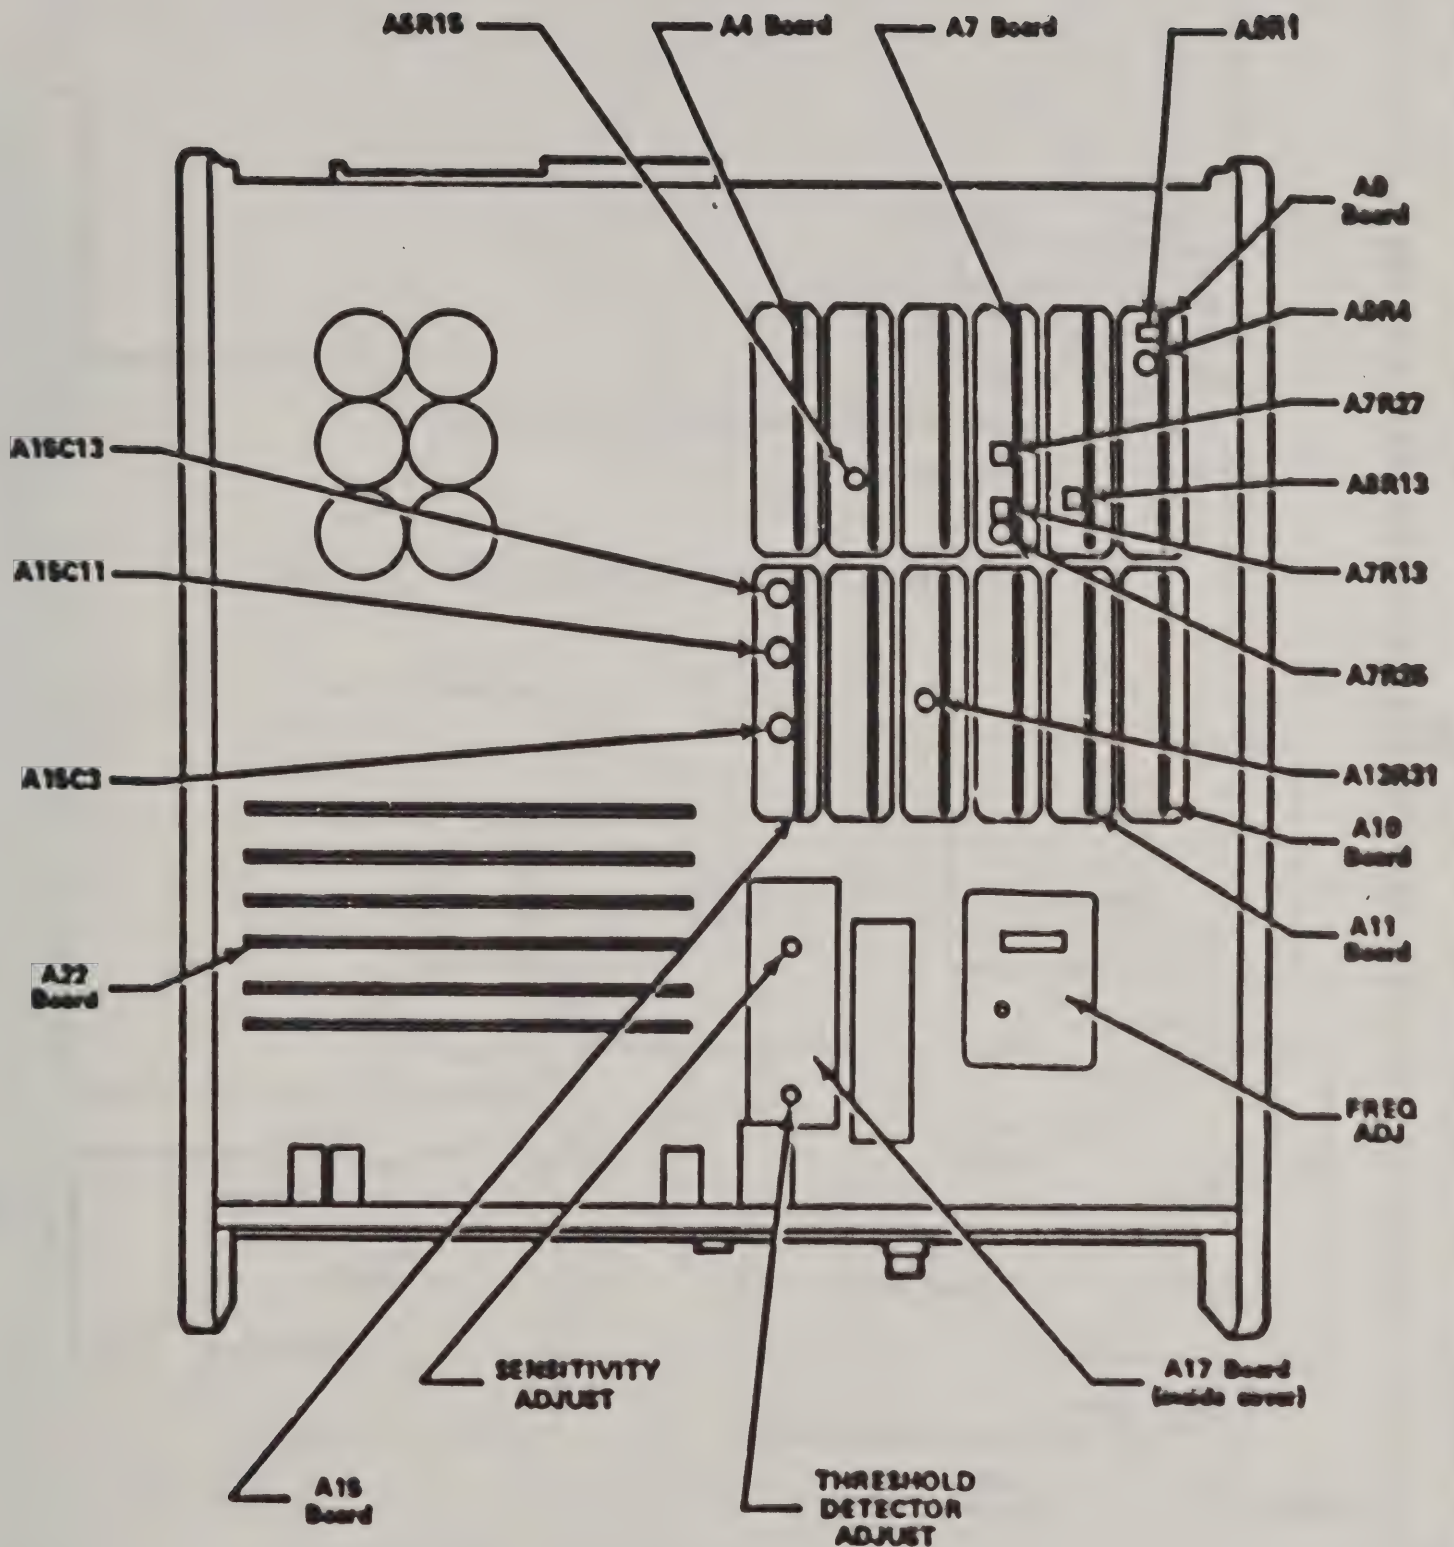
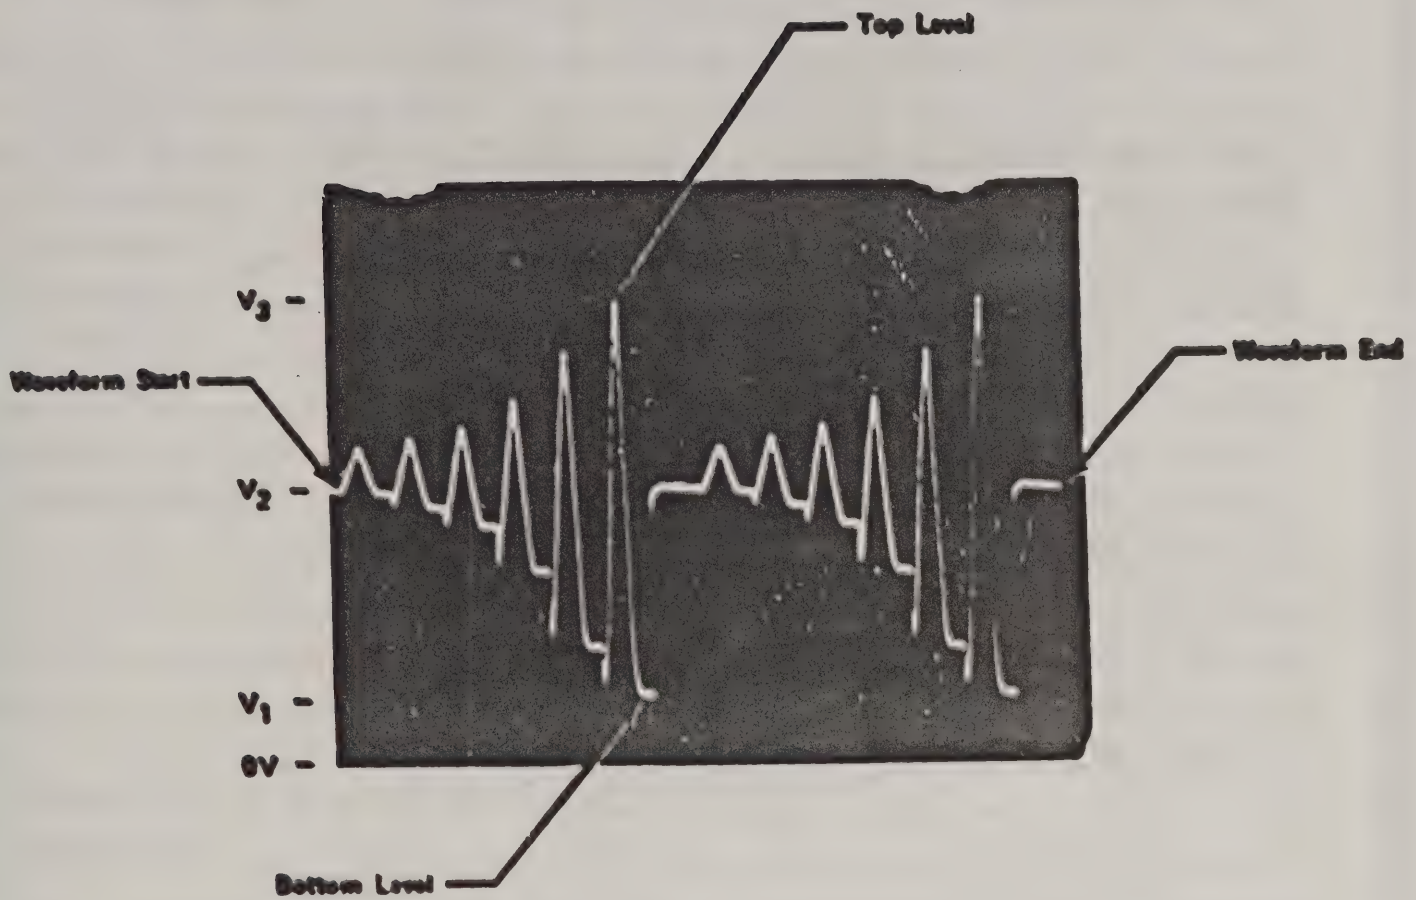

Figure 8. Sensitivity Adjustment Locations
Figure 14. Input Loop Waveform
5.4.22 Adjust TI A9R4 adjustment (Figure 8) for oscilloscope CRT display of minimum sine wave side jitter (phase noise).
5.4.23 Disconnect adapter (2.7) (connected to multimeter) from TI A7 pins 5 and 10, and connect to TI A9 pin 13 and ground. See Figure 8 for location of TI A9 board.
- 5.4.29 Disconnect probe (2.5) from TI A11 pin 1 and connect to TI A10 pin 7. See Figure 8 for location of TI A10 board.
- 5.4.34 Adjust TI A9R1 adjustment (Figure 8) for oscilloscope CRT ramp display centered about voltage calculated in step 5.4.28.
- 5.4.35 Disconnect probe (2.5) from TI A10 pin 7 and connect to TI A11 pin 1. See Figure 8 for location of TI A11 board.
- 5.4.39 Turn TI A8R13 adjustment (Figure 8) until oscilloscope CRT display waveform frequency just jumps from 20 kHz to 40 kHz.
- 5.4.41 Disconnect adapter (2.7) (connected to multimeter) from TI A9 pin 15 and connect to wiper of TI A8R13 adjustment (Figure 8) and ground.
- 5.4.44 Adjust TI A8R13 adjustment (Figure 8) for multimeter indication calculated in step 5.4.43.
- 5.4.47 Adjust TI A8R13 adjustment (Figure 8) for multimeter indication calculated in step 5.4.46.
- 5.4.49 Disconnect adapter (2.7) (connected to multimeter) from TI wiper of A8R13 and connect to TI A7 pin 10 and ground. See Figure 8 for location of TI A7 board.
5.4.59 Install TI A7 board (Figure 8) into TI.
5.4.62 Connect oscilloscope Ch A input connector to TI A7 pin 10 and ground with probe (2.5). See Figure 8 for location of TI A7 board.
5.4.66 Turn TI A7R27 adjustment (Figure 8) fully cw.
5.4.67 Adjust TI A7R13 adjustment (Figure 8) for oscilloscope CRT display of waveform start and end level at V_2 (step 5.4.53) (Figure 14).
5.4.68 Adjust TI A5R15 and A7R25 adjustments (Figure 8) for oscilloscope CRT display of waveform top and bottom levels at V_1 (step 5.4.51) and V_3 (step 5.4.55) (Figure 14).
5.4.71 Connect multimeter to TI A4 pin 8 and ground with cable (2.3), adapter (2.6) and adapter (2.7). See Figure 8 for location of TI A4 board.
5.4.72 Adjust TI A13R31 adjustment (Figure 8) for multimeter indication between -440 and -460 mV dc.
5.5.2 Adjust TI FREQ ADJ adjustment (Figure 8) for frequency comparator indication of less than 5 parts in 10^{10} .